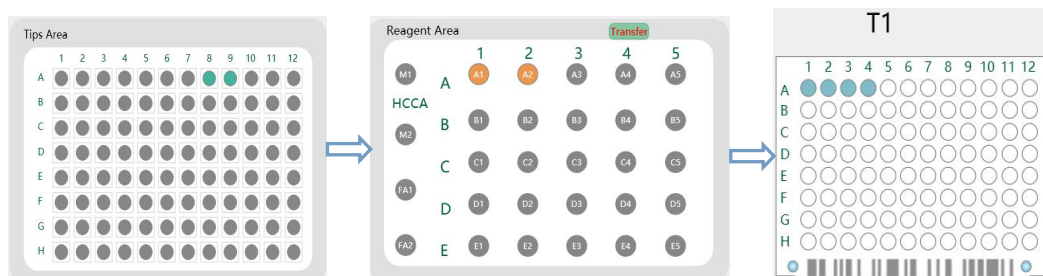

Figure 5.27 Operation Process
2) When the number of selected spots in the target plate is the multiple of that in the reagent area, the default mode is multiple sampling method. At this time, figure 5.27 is shown as below: